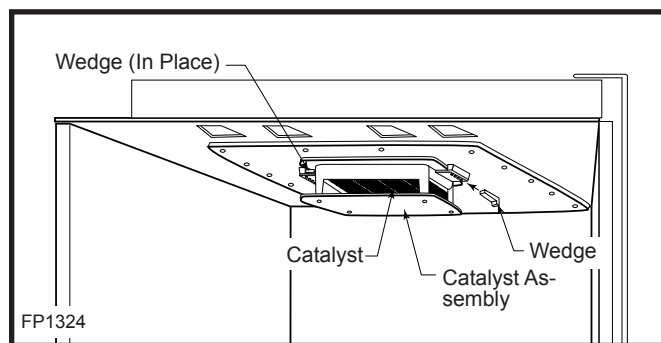

Fig. 32 Carefully tap out the wedges, then slide the Catalyst Assembly out of fireplace.
2. Tap the left and right wedges back and remove. (Fig. 32)